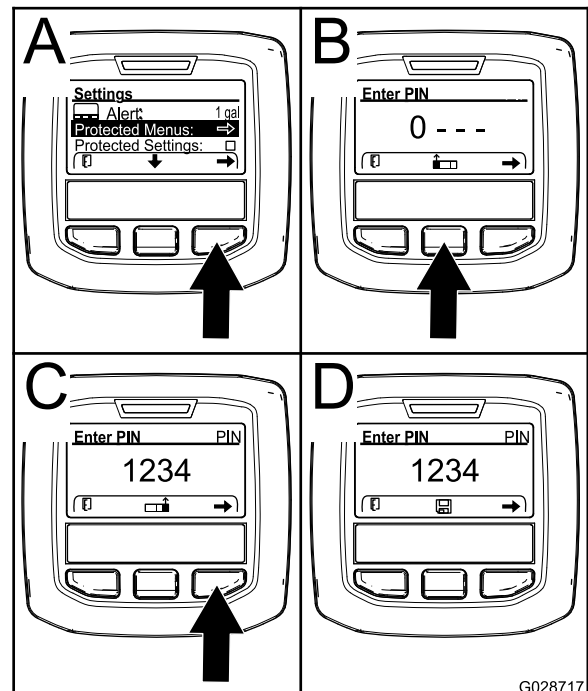

Figure 12
3. Press the right select button to select Protected Menu (A of Figure 12).
- Press the center selection button (B of Figure 12) to increase the numerical value (0 to 9).
- Press the right selection button (C of Figure 12) to move the cursor to the next numerical position to the right.
**Note:** The Save icon appears above the center selection button (D of Figure 12).